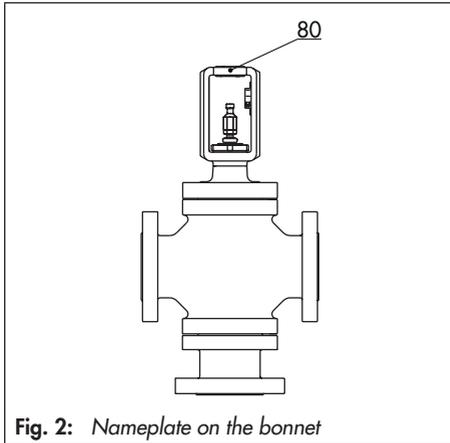

Fig. 2: Nameplate on the bonnet
The valve nameplate (80) is affixed to the bonnet (see Fig. 2).